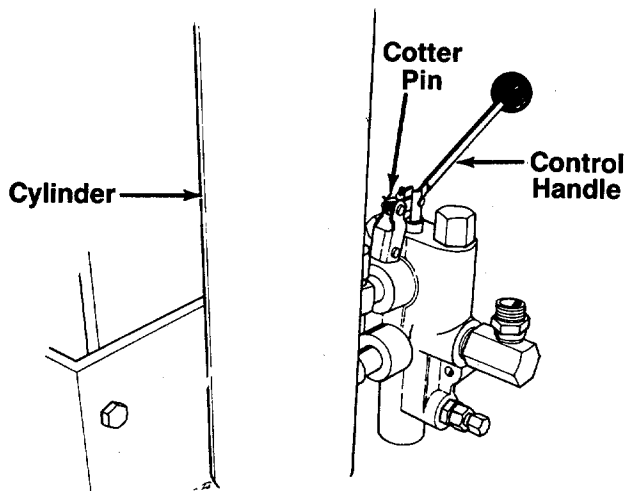

FIGURE 9.
- The bottom of the control handle is already attached to the valve with a cotter pin and clevis pin. Remove the second cotter pin and clevis pin which is attached to the valve only. Place the handle in position, and secure using the second cotter pin and clevis pin. See figure 9.